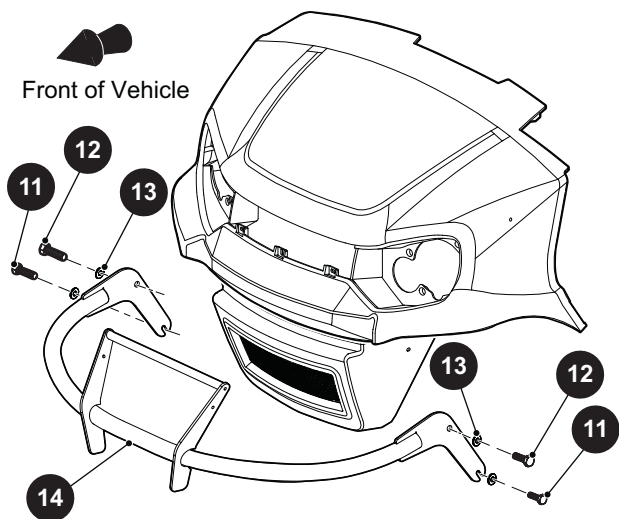

Figure 5 Brush Guard
Remove two bolts (11,12) from each side of the vehicle along with flat washers (13) that secure the brush guard (14) to the fenders. Retain the hardware for reuse (Figure 5).